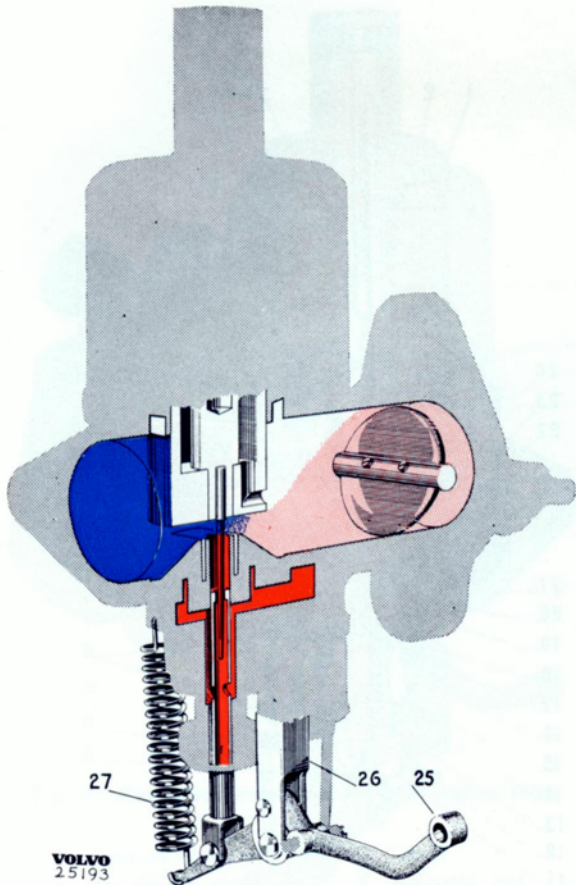

Fig. 9. Carburetor, cold start.
In order to richen the fuel-air mixture when starting a cold engine ,there is a device on the carburetor (Fig. 9) by which the jet can be lowered. When the jet is lowered, there will be a wider passage for the fuel since the needle in the jet is tapered. There is no choke shutter on the carburetor. The jet, the lower part of which is yoke-formed, is not fitted directly into the carburetor housing but is in two bearings (12 and 20, Fig. 8) so that it can be moved up and down. When the lock nut (15) is loosened, the jet can also be moved laterally (for centralizing). The upper jet bearing has a flange which, with the aid of a washer (21), seals against a recess in the carburetor body, and the lower bearing flange seals with the help of a washer (18) against the upper surface of the lock nut. The lock nut seals against the carburetor housing by means of a washer and gland (16). Inside the bearing there is a spring (17) exerting
pressure against two washers with sealing glands (13 and 19) which prevent any leakage of fuel between the jet and the upper jet bearing. When a cold engine is being started, the outer end of the lever (25, Fig. 9) is pulled upwards by means of a control, whereby the movement is transmitted through the link (26) so that the jet, which is connected to the inner end of the lever, is pulled downwards. This movement is limited by means of a projection on the lever and return to the normal position is taken care of by the return spring (27), when the control is pushed in. At the same time as this lever is operated, the throttle is opened slightly by means of the rapid idling device described below.